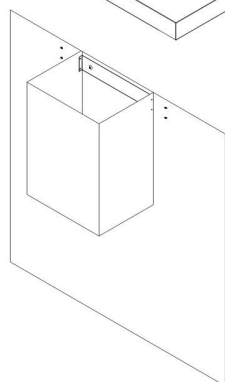

Figure 6
8. To avoid scratching the chimney, extend the upper chimney slowly and carefully to the chimney-mounting bracket and tighten screws as shown in Figure 6.